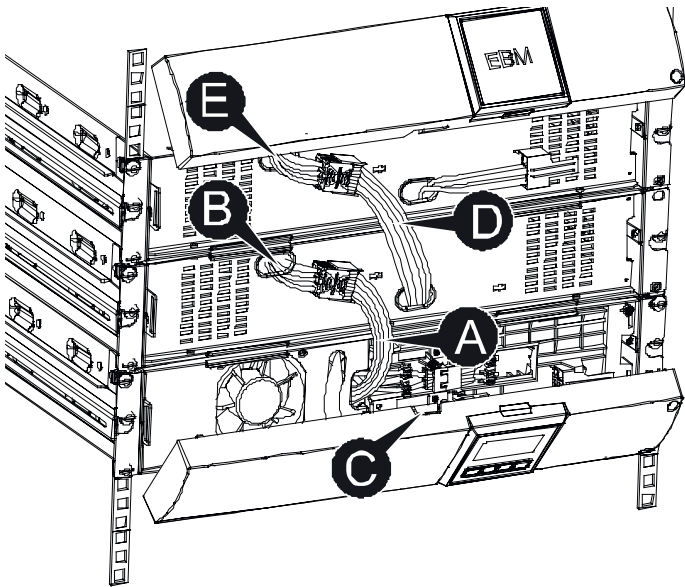

Figure 4: Installing multiple external battery enclosures
1. Remove the front panel and connect the battery terminal (A) from the UPS to the battery enclosure terminal (B) as shown in figure 4.
2. Connect the battery terminal (D) from the first battery enclosure to the battery terminal (E) in the second battery enclosure.
3. Remove the gates (C) on the side of the front panel to allow the outlet wire of the battery module to pass through the gate.